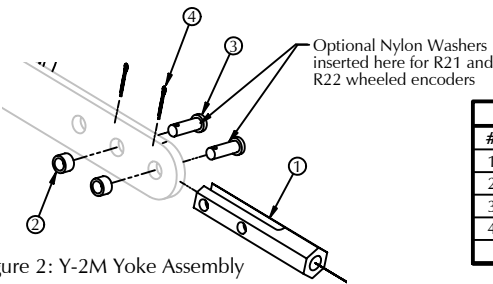

Figure 2: Y-2M Yoke Assembly
1. Assemble the Y-2M yoke assembly on the end of the encoder arm as shown in figure 2.